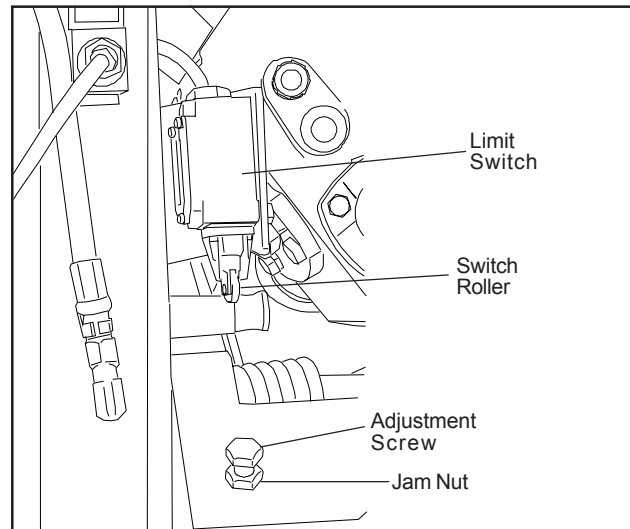

Figure 15: Limit switch adjustment
2. To set the limit switch, loosen the jam nut on the limit switch stop (see figure 15).